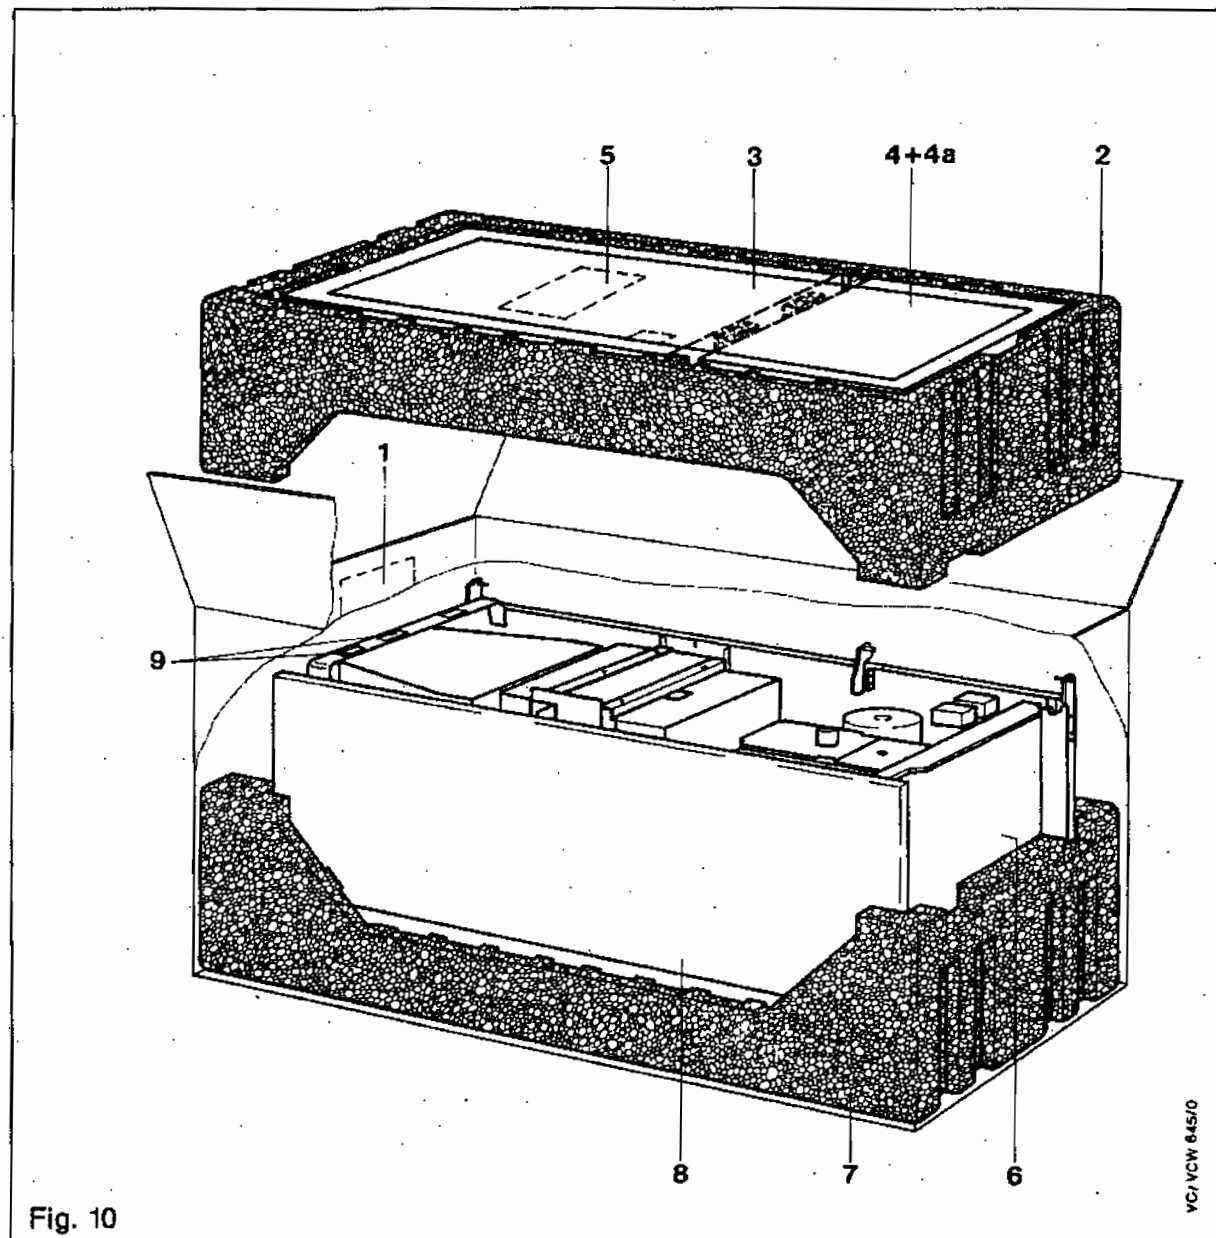

Fig. 10
the cased boiler (item 1, fig 10).